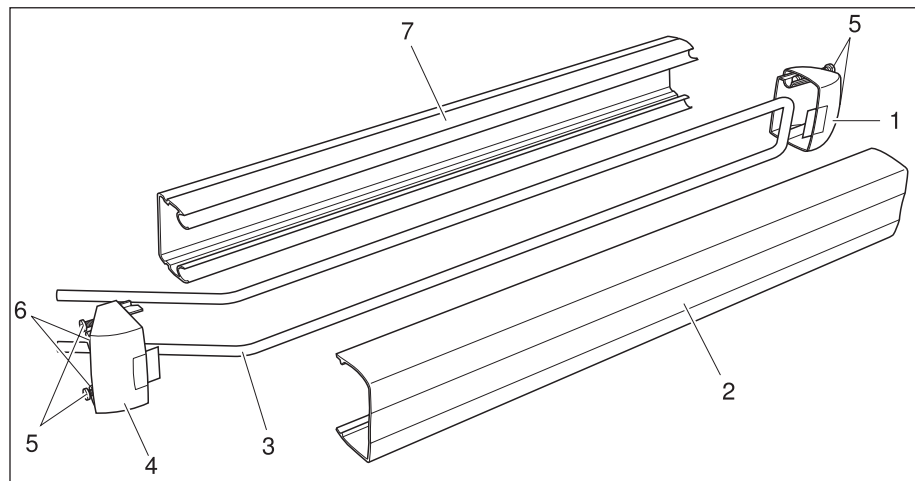
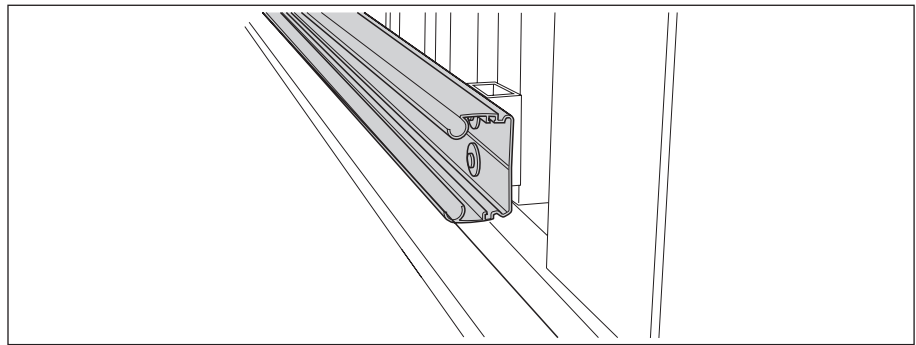

Fig. 6-5: Parts overview transponder antenna (see also section 11)
Fig. 6-6: Install spool carrier lower section (example)
- Align spool carrier lower section (pos. 7 in Fig. 6-5) such that the openings of the cable conduits face upwards (see Fig. 6-6).
3. Insert the antenna cable (pos. 3 in Fig. 6-5) in a loop in the cable conduits.
5. Push (closed) end cap, (pos. 1) into the spool carrier lower section and screw on with the two fixing screws (pos. 5).
6. Push spool carrier upper section (pos. 2) onto the spool carrier lower section until it locks in place.
7. Insert cable grommets (pos. 6) into the holes of the end cap for TRS-S (pos. 4).